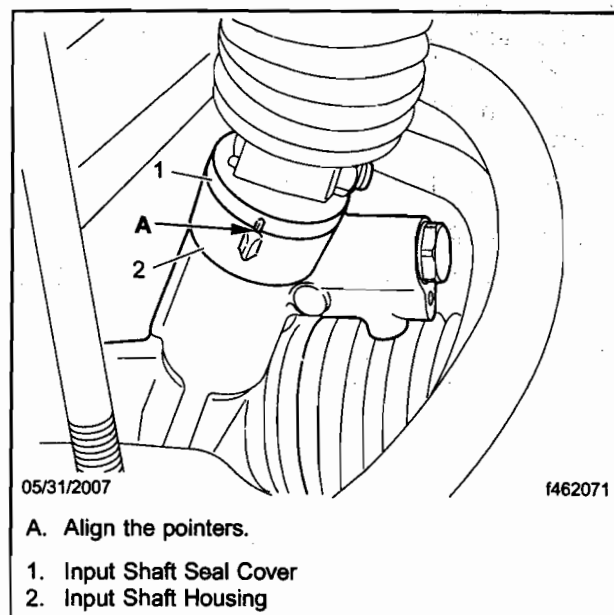

Fig. 8, Aligning the Timing Pointers
14. With the front axle raised, center the travel of the steering rack and align the timing pointers on the plastic cover and the rack housing as follows. See Fig. 8.